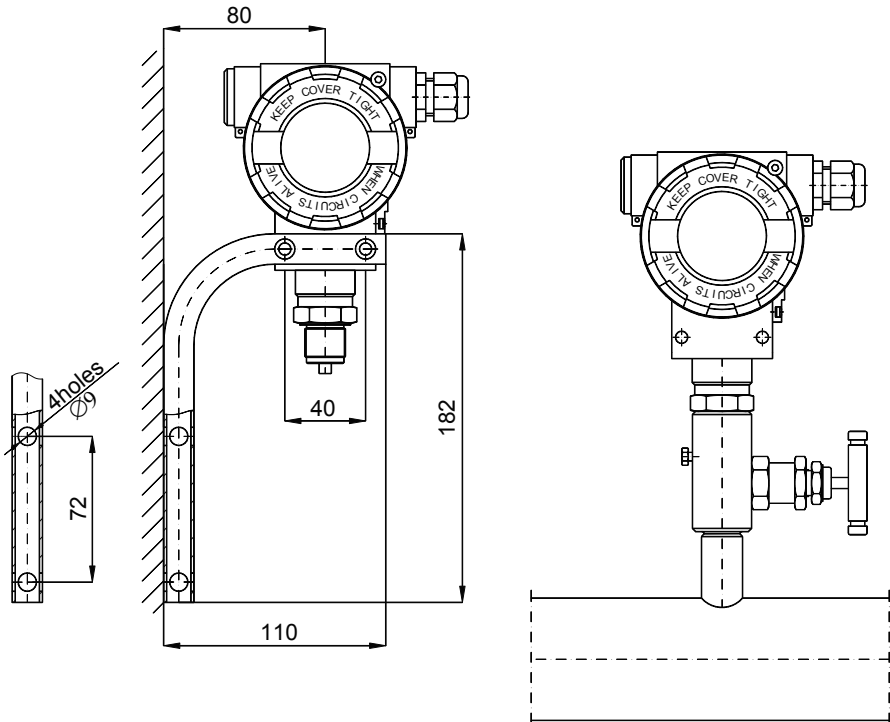

Fig.6. Mounting methods of APC-2000ALW (Ex) Safety transmitter
7.1.3. Transmitter **APC-2000ALW (Ex) Safety** can be installed using universal "AL holder" allowing installation, in any position, on supporting structure or vertical or horizontal tube $\varnothing 35 \dots \varnothing 65$ (Fig.6).